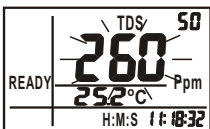

Fig .1
7. Press **CAL** key for more than 2 sec. To begin the calibration. The TDS value blink on the display. (Fig.1)